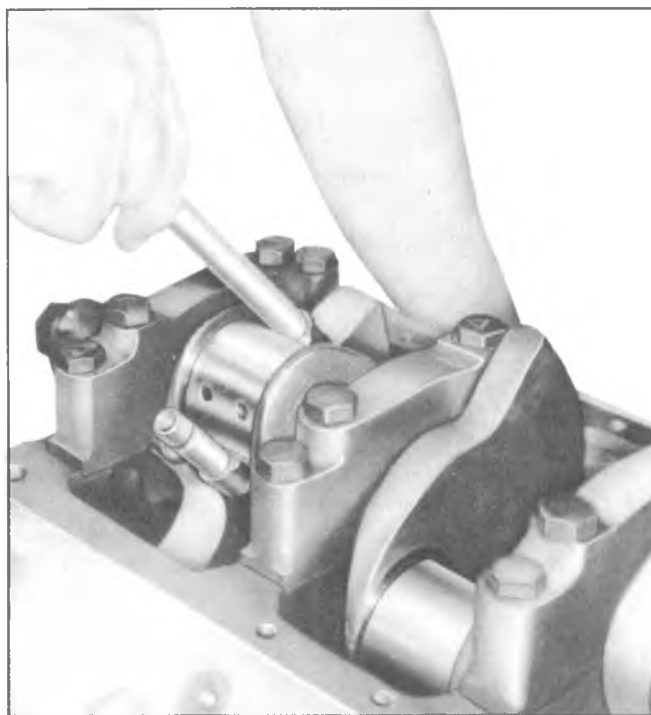

Fig. 6A-67V-Removing Connecting Rod Piston Assembly
3. Remove connecting rod cap and install Tool J-5239 (3/8") or J-6305 (11/32") on studs. Push connecting rod and piston assembly out of top of cylinder block (fig. 6A-67V).